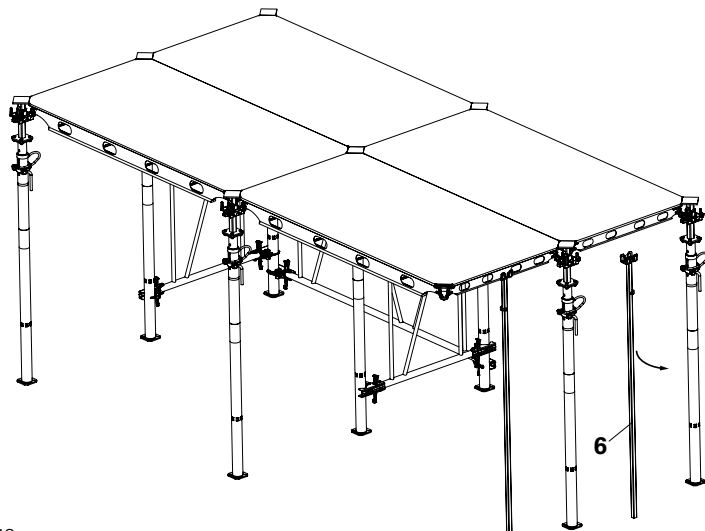

Fig. A4.13
7. Once the prop is set into position, the first shuttering aid (**6**) can be removed while the second shuttering aid supports the panel further. (Fig. A4.13)